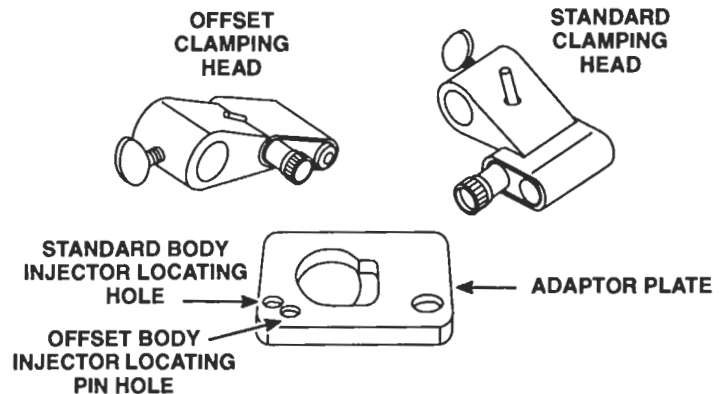

Figure 1. Injector Tester J 23010-A Clamping Heads
1. Select the proper clamping head (Figure 1.) Position it on the clamping post and tighten the thumb screw into the lower detent position (Figure 3.)